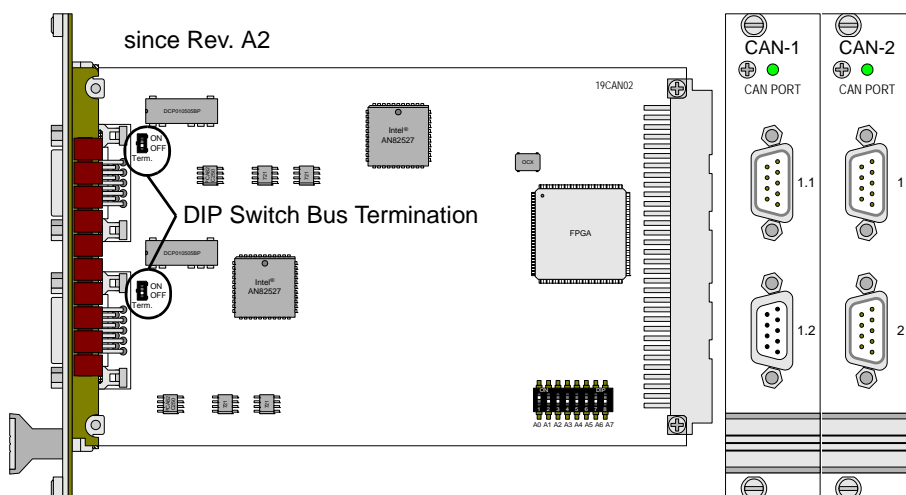

Fig. 284 – Pro-CAN-1/-2: PCB and front panels
If the CAN module functions as the physical termination of a high-speed CAN bus, it must be terminated with a 120Ω resistor (only the first or the last CAN node). If a termination is necessary, move the DIP switch (Rev. A2, see fig. 284) upward; when using the module revision A1 set the jumper to the left position (ON). CAN nodes, which are not positioned in an end-location, must not be terminated.